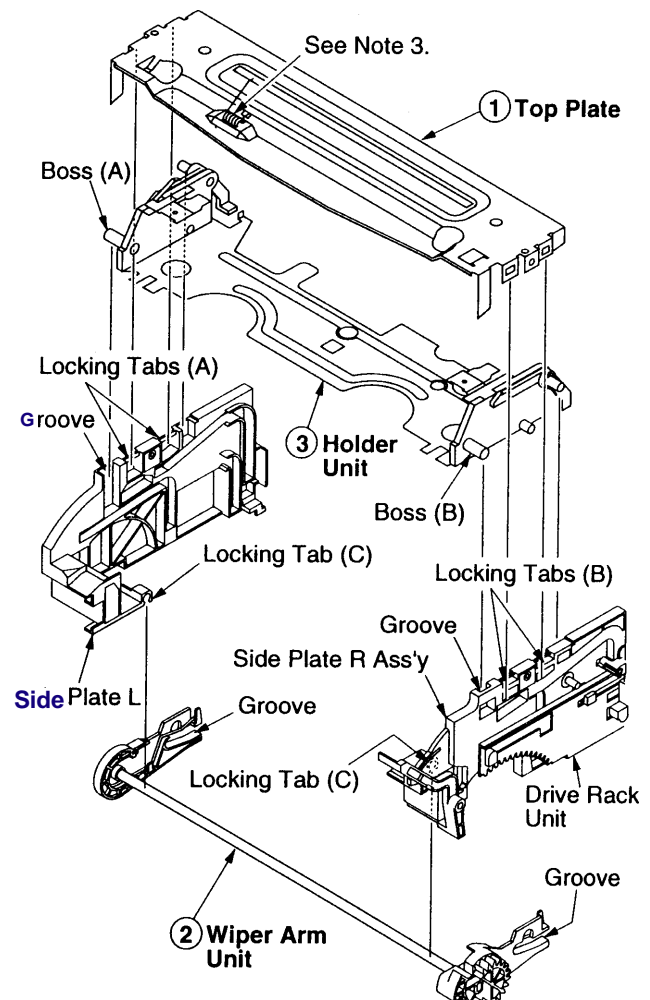

Fig. 26 - Top Plate/Wiper Arm Unit/Holder Unit Disassembly
Top Plate/Wiper Arm Unit/Holder Unit Disassembly (Fig. 26, 27, 28)
1. Release two (2) locking tabs (A) on the top left side and two (2) locking tabs (B) on the top right side of the top plate (Fig. 26).
2. Release two (2) locking tabs (C) and then remove the holder unit.
When reinstalling the holder unit, turn the wiper arm unit so that the grooves on each end are aligned with the grooves on the side plate (L) and (R) (Fig. 26). Insert the holder unit boss (A) and (B) into the grooves. With the unit in the eject position, confirm that the protruding section of the wiper arm unit is aligned with the indentation on the drive rack unit (Fig. 28). As an **ESD PRECAUTION**, make sure that the spring is in contact with the top cover when reassembling the unit.